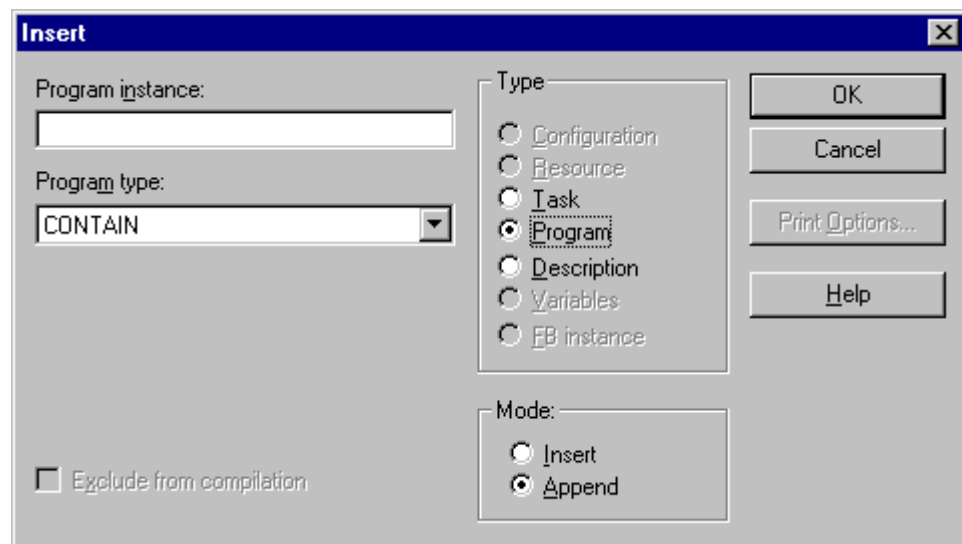

Figure 11-3: Dialog 'Insert'
- Activate the radio button 'Program' as shown in figure 11-3.